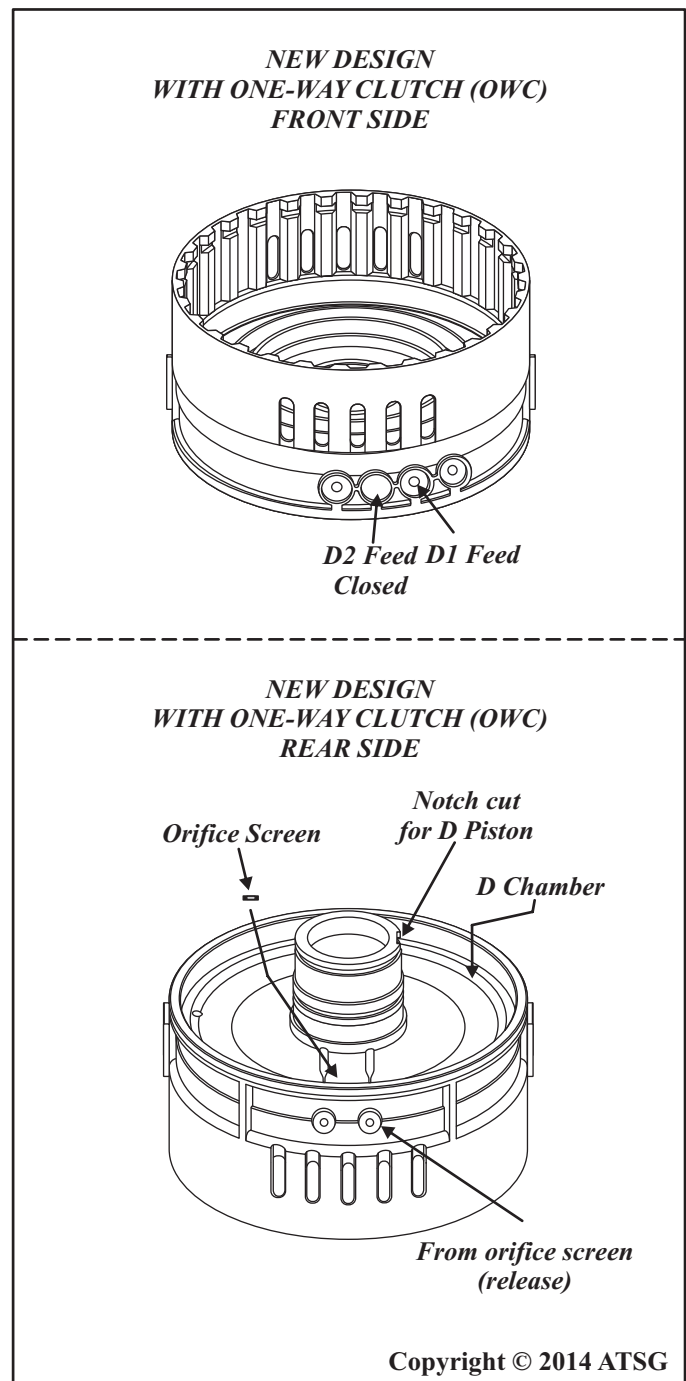
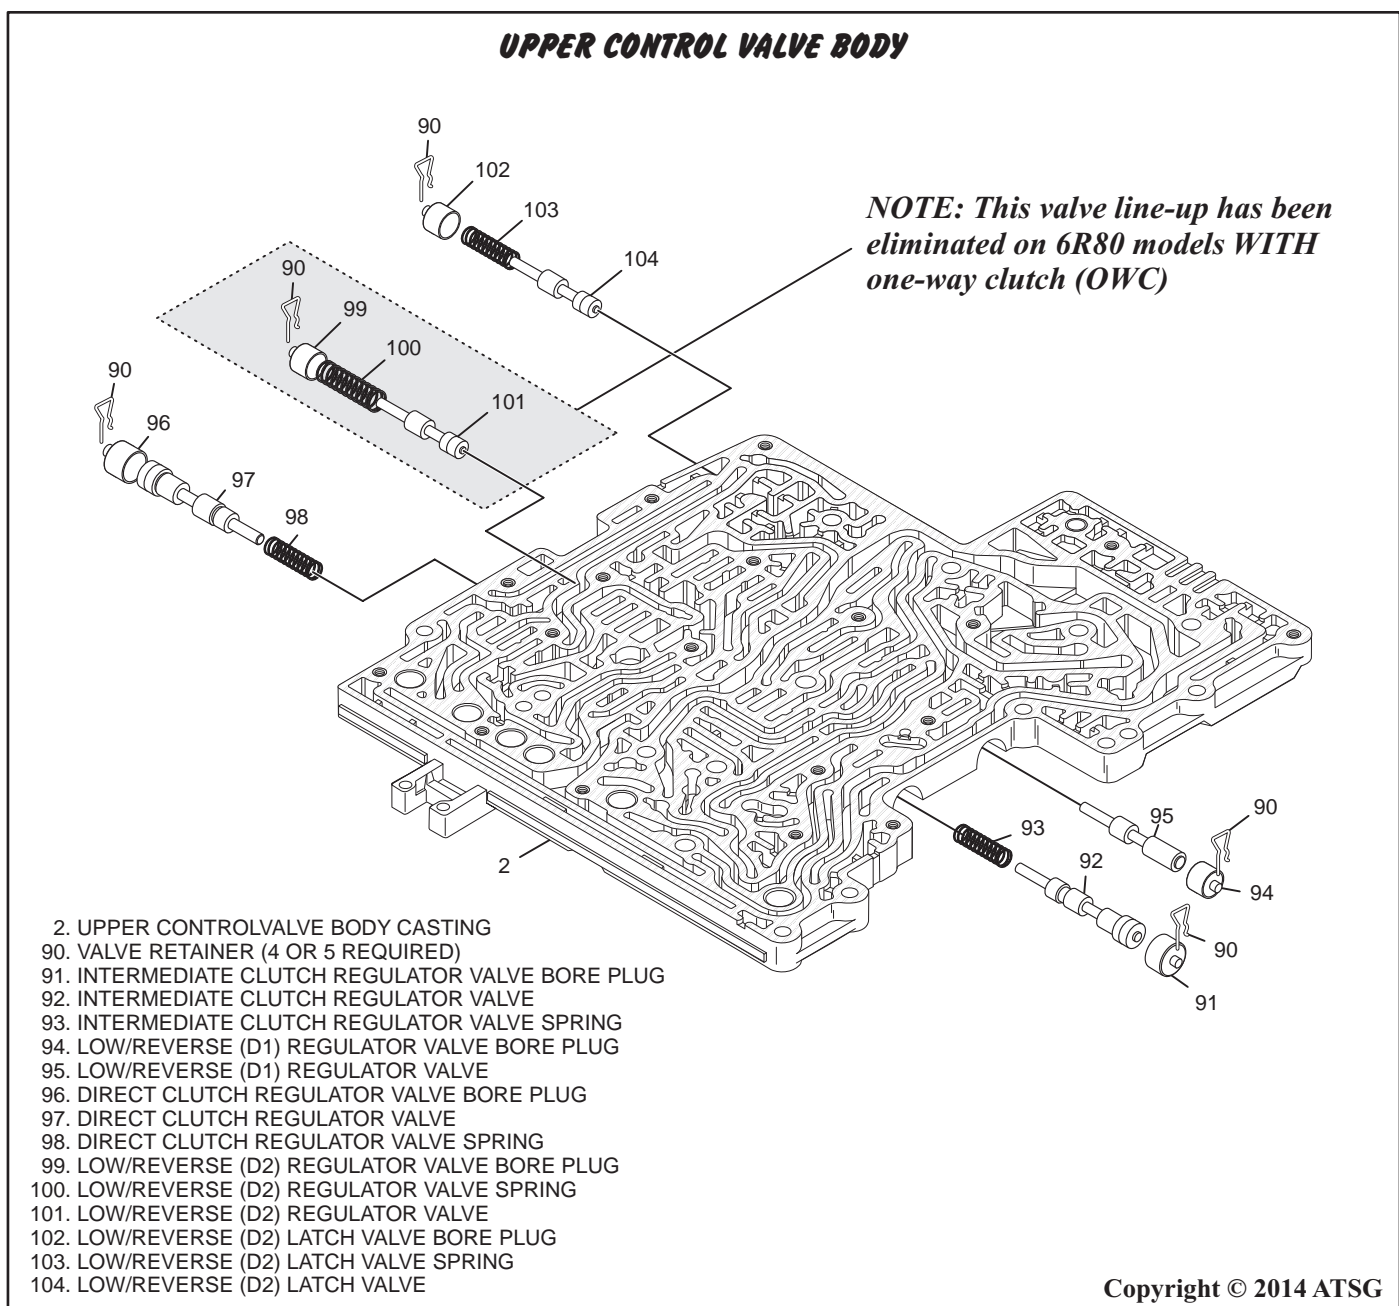

Figure 116
Figure 125
21. Disassemble the upper control valve body as shown in Figure 125.
22. Carefully remove each retainer, bore plug, valve and spring and place them into appropriate trays, laying them out in the exact order in which they are removed, using Figure 125 as a guide.
25. Install each spring, valve, bore plug and retainer in the lower control valve body in the exact order as shown in Figure 125.
NOTE: 6R80 MODEL UNITS WITH ONE-WAY CLUTCH (OWC) have eliminated the low/reverse (D2) regulator valve line-up. The bore is left empty. See shaded area of diagram in Figure 125. The (D2) passage in the intermediate and low/reverse was eliminated, (reference diagram in Figure 116) therefore the (D2) regulator valve is unnecessary and was also eliminated.